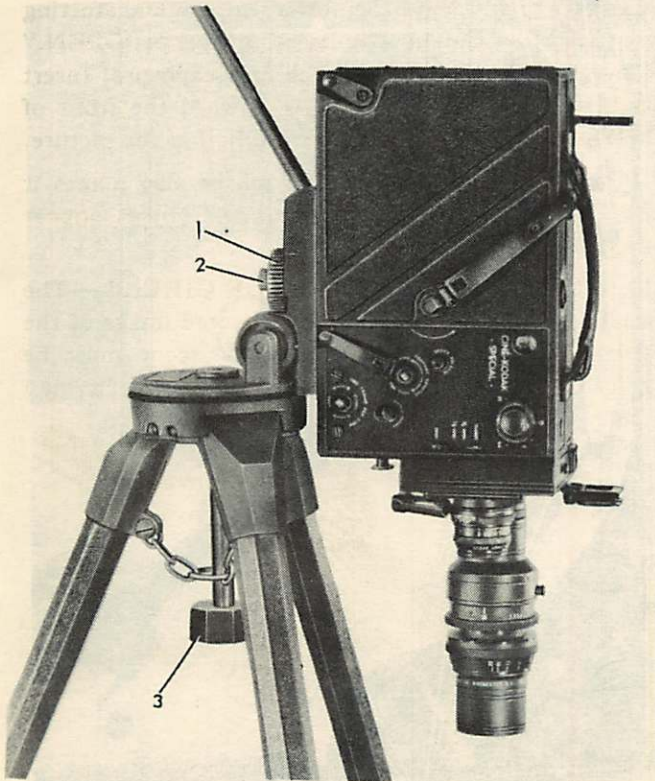
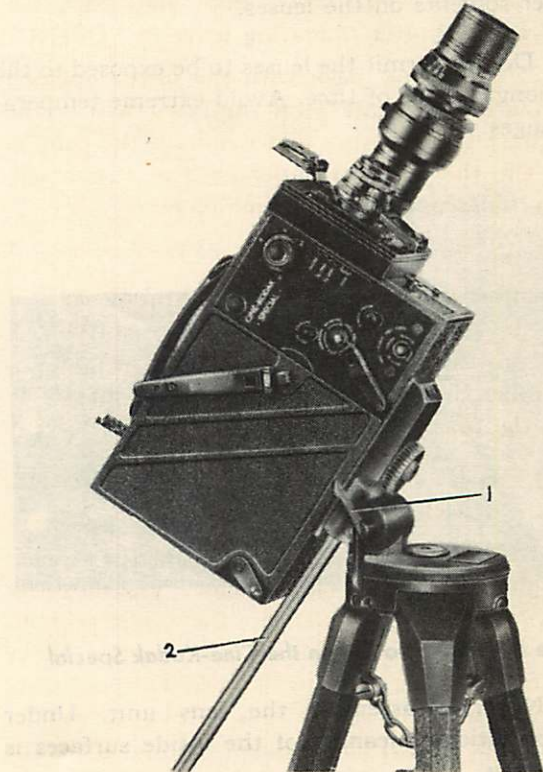

Figure 15—Camera Mounted for Taking Pictures at Horizontal or Below
Figure 16—Camera Mounted for Taking Pictures at Horizontal or Above
(2) ATTACHING THE CAMERA. (See figure 15.)
(d) For taking pictures at horizontal or below, attach the camera to the tilt head as shown in figure 15. For filming at horizontal or above, attach as shown in figure 16.
(e) Screw the handle assembly (2, figure 16) into the tilt head as shown in figures 15 and 16, depending upon the mounted position of the camera.
(a) To panoram or lock the head in position, use the pan screw knob (3, figure 15). A very slight tension exerted by the pan screw is recommended for smooth swing of the camera in the horizontal.
(b) The vertical movement of the tilt head is regulated by the tilt adjusting screw (1, figure 16), which will lock the tilt head in any position or permit smooth movement when a slight tension is left on the friction washers.
Smoother movement of the camera is possible if the handle (2, figure 16) is used.